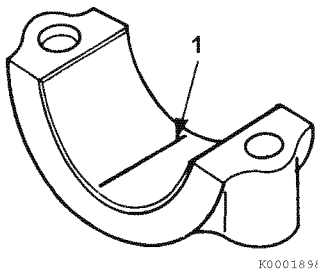

Figure 6-51
4. Place a piece of PLASTIGAGE® (Figure 6-51, (1)) along the full width of the bearing insert.